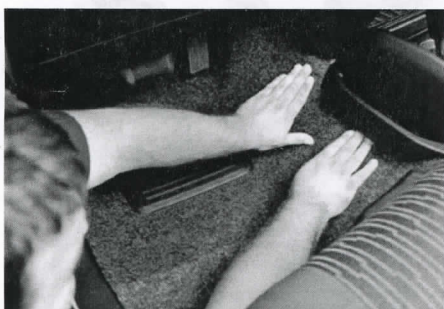

FIGURE 2:
7. Adjust the front seats to the rear most position to allow maximum clearance for installation. Place front floor pieces into place. Tuck under console and around seat brackets as shown. (**Fig. 2 and Fig. 3**)